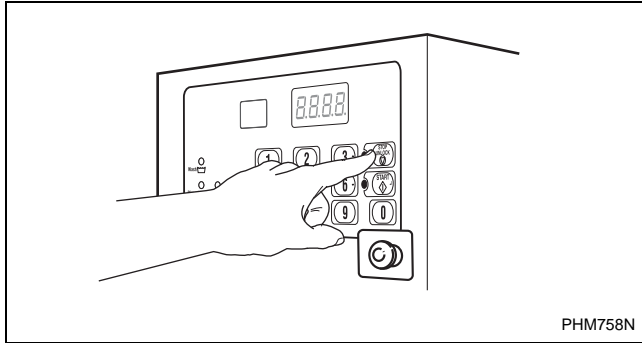

Figure 14
2. Press the STOP/UNLOCK button located on the control. Refer to *Figure 14*.